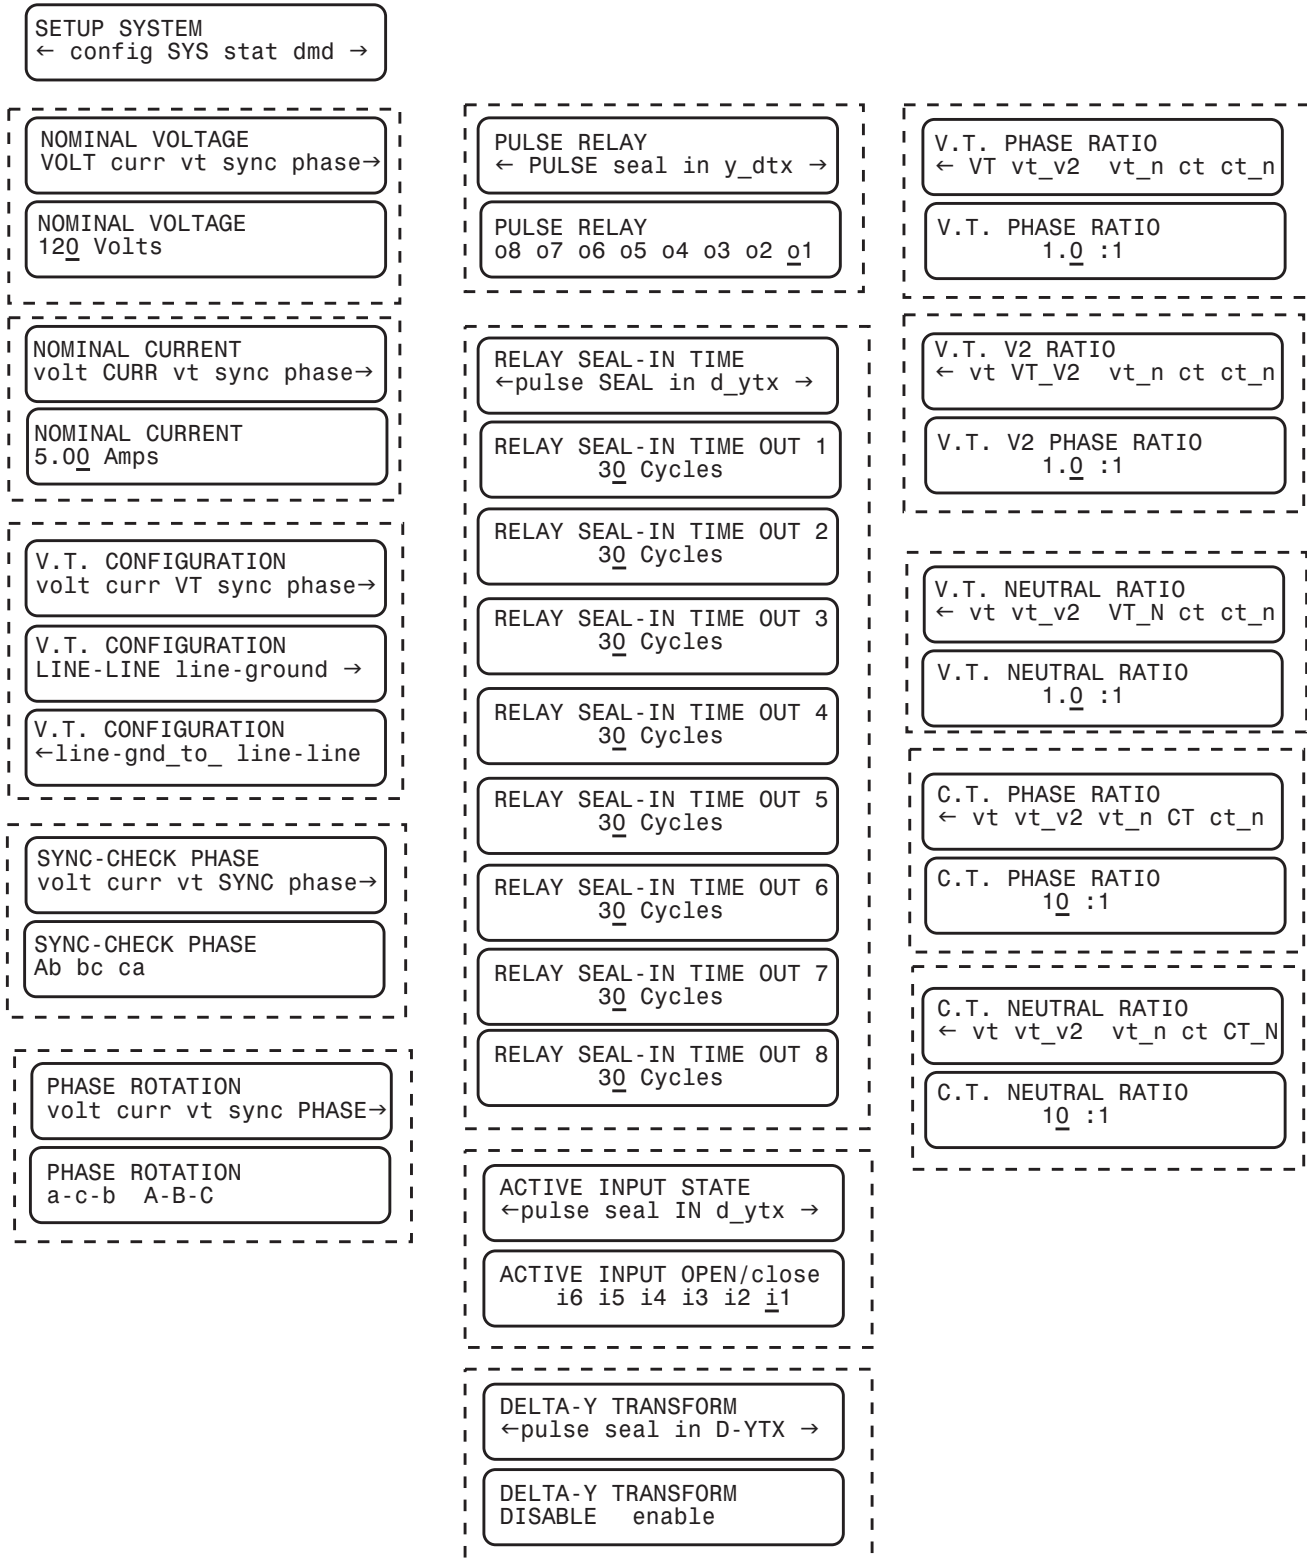

Figure 3-4 Setup System Menu
7. Finish relay configuration in the **SETUP SYSTEM** menu. This is the general system and equipment information required for relay operation. See Figure 3-4, Setup System Menu. This includes such items as CT and VT ratios, VT configurations, and Nominal values.
See Figure 3-4 for Sample Settings related to input for this Section. Settings are self explanatory, and are required for proper operation of the M-3520 relay.